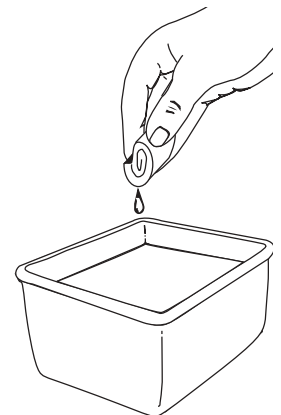

FIGURE 23
3. Wash the filter in detergent and water, Figure 23. Rinse the filter thoroughly. Squeeze out excess water. Allow it to dry completely.